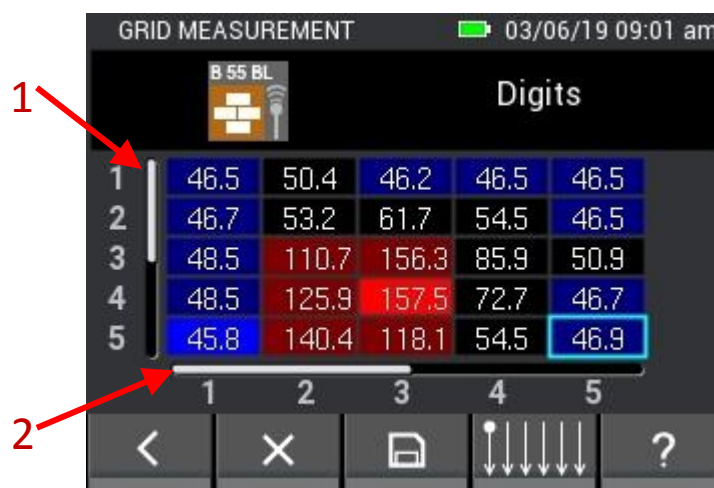

Figure 8-17: Display of a grid with more than 5 columns or 5 rows
A maximum of 5 columns and 5 rows can be displayed for the grid measurement. The scroll bars (1) and (2) in Figure 8-17 indicate that further measuring fields are available which can be reached using swipe gestures.